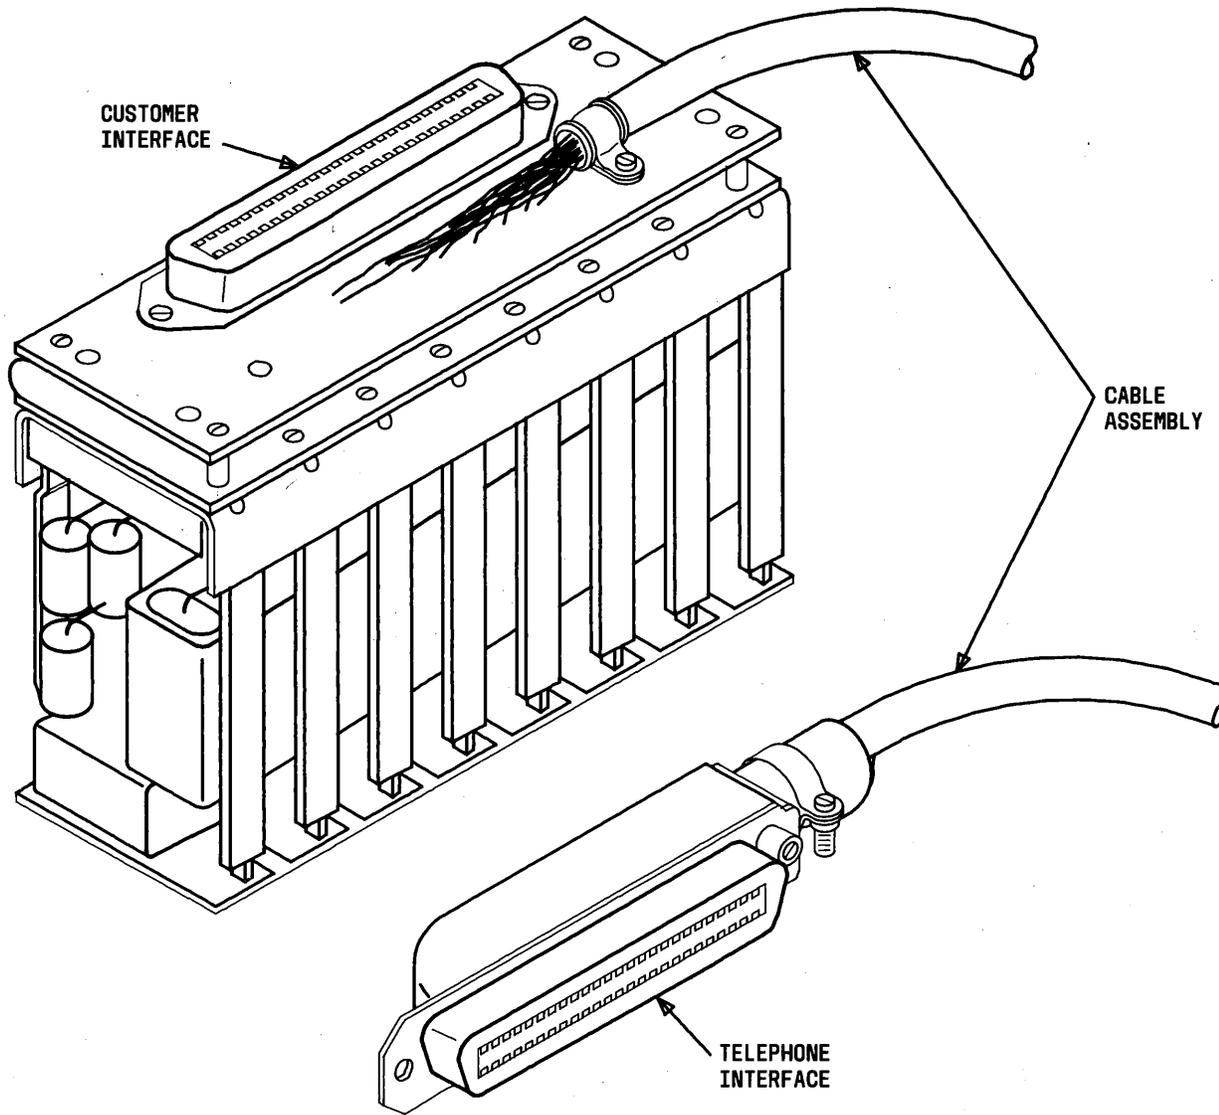

Fig. 7—97A3 Data Mounting
2.09 ♦The 97A3 data mounting is rated MD/NO (manufacture discontinued/not orderable).♦ The 97A3 data mounting (Fig. 7) replaced and is similar to the 97A1. The 97A3 data mounting is equipped with a 2-foot cable assembly and clamp instead of the telephone interface connector mounted on the backplane as on the 97A1.